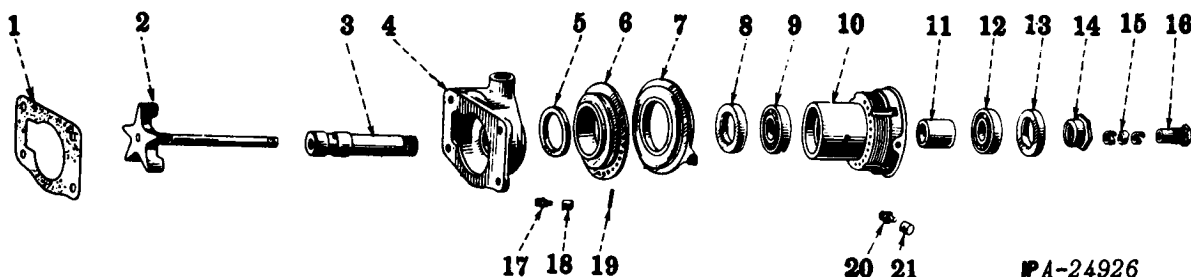

Fig. 21 - Water Pump Components (Packing Type) ("4" Series).
**NOTE:** Refer to Fig. 21 for exploded view.